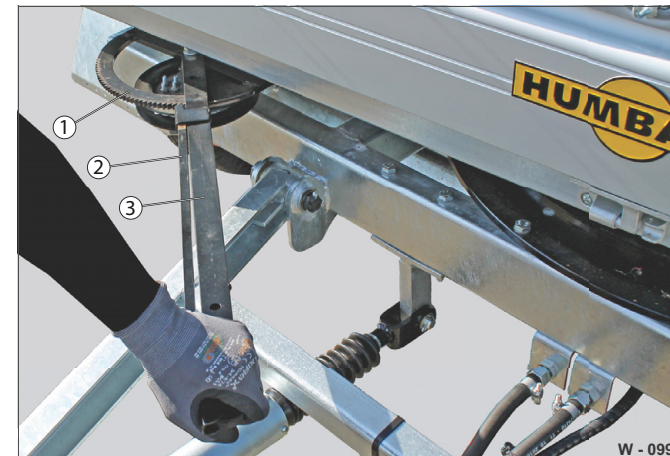

Fig. 57 Turntable brake lubrication point
- Lubricate the gear (Fig. 57 /1) and lubrication points on the locking mechanism (Fig. 57 /2).